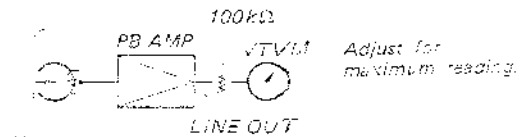

Fig. 5-2-5 Test setup
- 1) Play back the tape (P-4-A81), and adjust the azimuth adjusting screw for maximum output level. See Fig. 5-2-5.
4. Playback Frequency Response Measurement (See Fig. 5-2-5 on page 12.)
5. Playback Signal-to-Noise Ratio Measurement (See Fig. 5-2-5 on page 12.)